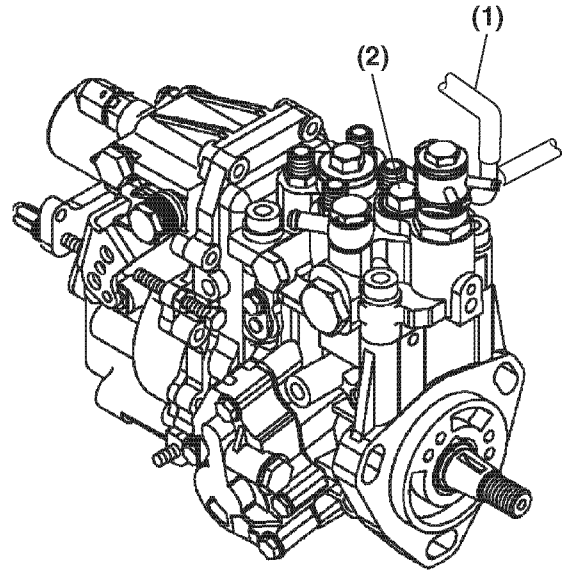

Figure 7-36
- Clamp shut the fuel injection pump fuel return hose leading to fuel filter (**Figure 7-36, (1)**).
- Remove the forward fuel injection pump plunger plug (**Figure 7-36, (2)**) on the top of the fuel injection pump.